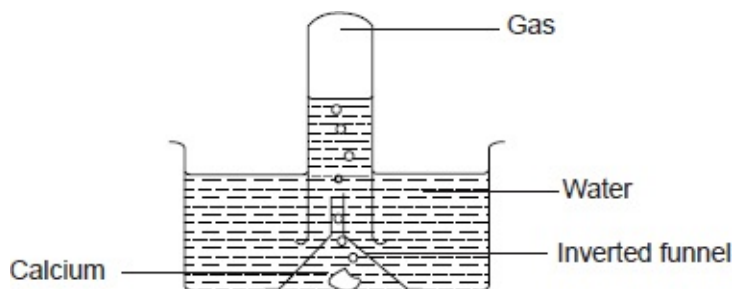

Fig 5.3: Reaction of calcium with cold water
- (b) Drop a piece of calcium metal into water in a trough. Invert a funnel over the calcium. Fill a test-tube with water and invert it over the funnel. Collect the gas given off as shown in figure 5.3. Cork the test-tube to prevent the gas from escaping. Lift the test-tube from water and turn it upright. As you remove the cork, bring a burning splint near the mouth of the test-tube. Observe what happens. Test the solution in the beaker using pieces of red and blue litmus paper. Record your observations.